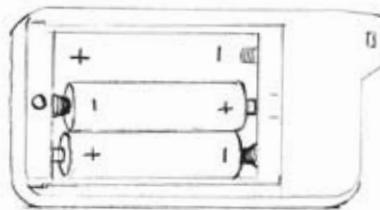

figure 3 – Remote Transmitter Battery Lid
2. Insert three AAA batteries, in the Remote Transmitter, matching the (+)/(-) signs (*figure 3*).